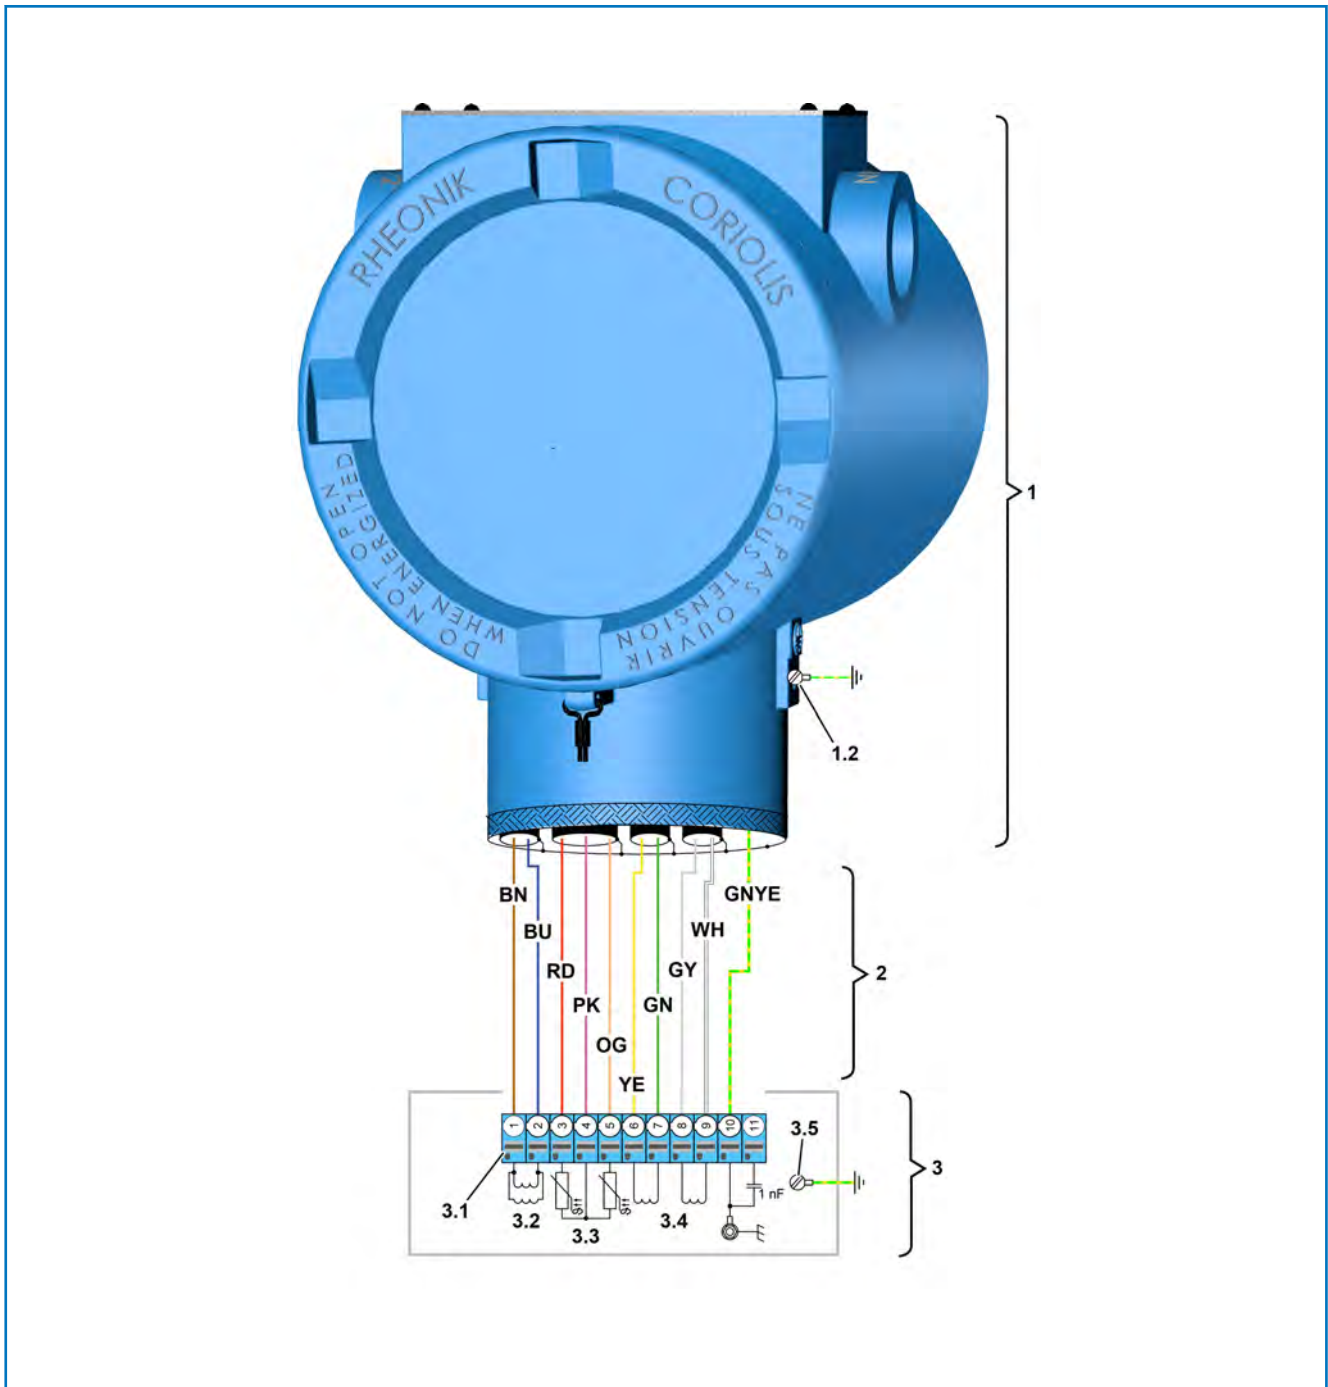

Fig. 6: Wiring diagram for the RHE42-R\* Coriolis transmitter to the RHM Coriolis sensor
1. Check whether the serial number on the type label of the RHE42 Coriolis transmitter (1) matches the serial number of the RHM Coriolis sensor (3) that you are connecting.
2. Undo the cable gland on the RHM Coriolis sensor (3).
3. Unscrew the fastening screws on the cover of the RHM Coriolis sensor (3) and remove the cover.
4. Guide the connecting cable (ARHE-Cx) (2) through the housing to the connection terminal (3.1).
5. Connect the connecting cable (ARHE-Cx) (2) to the RHM Coriolis sensor (3) in accordance with the wiring diagram; see: Figure 6.
- Connecting the shielding to PE\_C (terminal 11) (on devices that have a longer connecting cable (ARHE-Cx) (2) and small differences in the ground potential).
6. Route the connecting cable (ARHE-Cx) (2) in the housing of the RHM Coriolis sensor (3) such that it cannot become damaged by being trapped or from tensile forces.
7. Tighten the cable gland on the RHM Coriolis sensor (3).
8. Place the cover onto the housing of the RHM Coriolis sensor (3) and screw in the fastening screws.
9. Secure the connecting cable (ARHE-Cx) (2) with a strain relief fitting.